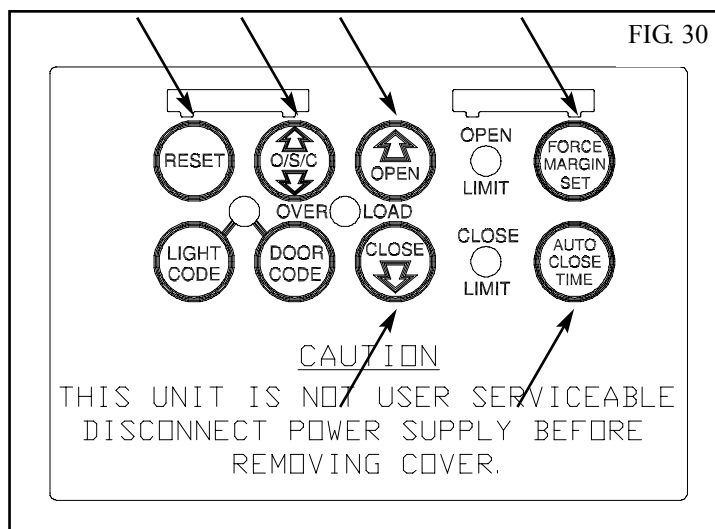

FIG. 30
1. Press and hold the Auto Close Time button (Fig. 30).
2. While holding the Auto Close Time button, press the Open button (Fig. 30). Each press of this button will add five seconds to the auto close delay time.
4. Press the O/S/C button (Fig. 30) or transmitter to open the door. When the door is fully opened the Open Limit green LED will flash to indicate that the auto close mode is in operation. Break the path of the P.E. Beam momentarily, the door will close after the set auto-close time has elapsed.
To re-initialise the opener press and hold the Reset Button (Fig. 30) until the open limit LED illuminates. The door will start to move and re-calculate force margins. The initialisation is complete and the door is ready for use when the door has completed a full open and close cycle.